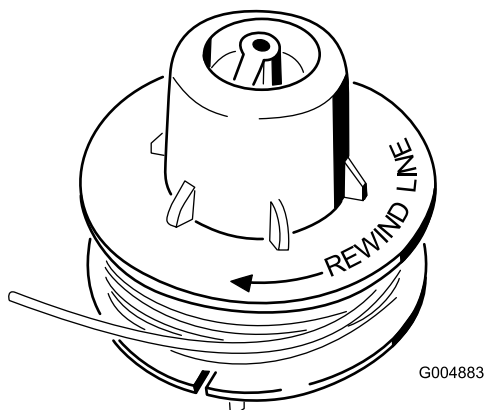

Figure 8
- B. Wind the line in the direction of the arrow on the spool, in level rows, between the spool flanges (Figure 8).